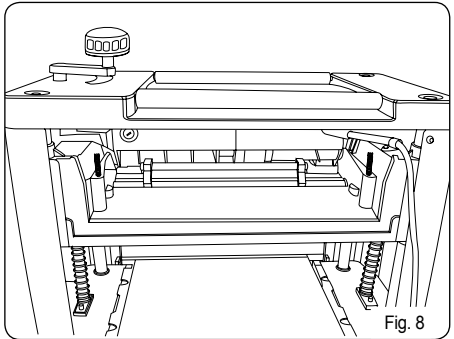

Fig. 8
## SETTING THE BLADE HEIGHT (Fig. 8&8a)
- To obtain a blade projection of 1.5mm, place the blade setting gauge (E) on the cutterhead with both guides resting firmly against the blade. (Fig. 8)
- Loosen the assembly by turning the 7 screws (A) clockwise with an open end wrench.